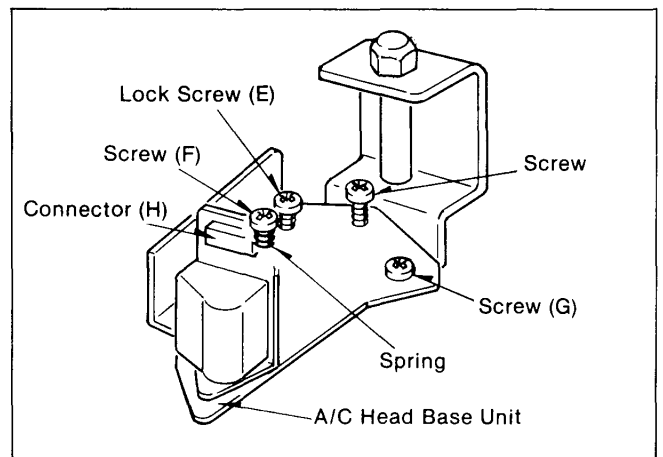

Figure M11
1. Disconnect a connector (H). (Figure M11)
2. Unscrew 3 screws (E)(F)(G) with a spring and then remove the A/C Head (1) Unit (Figure M11).